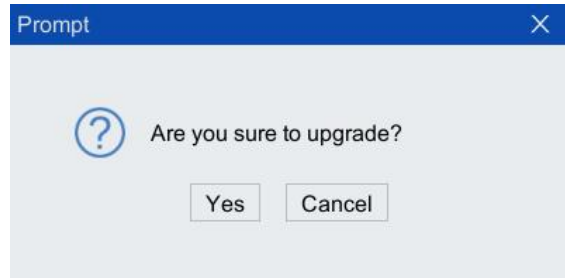

Figure 8-51 "Are you sure to upgrade?" dialog box
Step3. After "Are you sure to upgrade?" dialog box in Figure 8-51 pops up click <Yes> button to pop up the upgrade progress bar. The CCB file upgrade will take about 1 min.